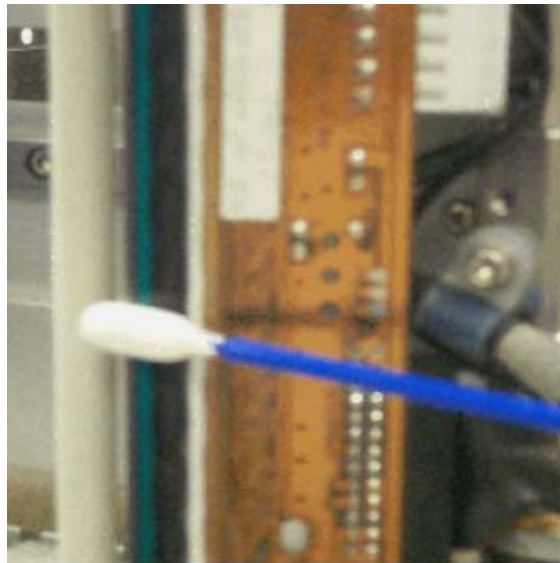

Figure 5-16: Printhead Cleaning
- 3 Clean the printhead pixel line (Figure 5-16), the white cassette rollers and the peel roller gently, using the cleaning swabs provided with the printer.